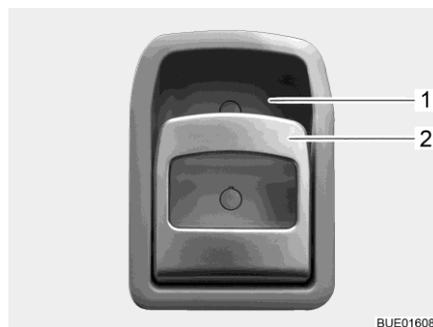

Fig. 73 Door lock (conversion door, inside)
- Pull on the handle (Fig. 73,2). The door lock is unlatched or opened.
- Press the upper part of the handle (Fig. 73,2) in the direction of the recessed handle (Fig. 73,1). The door lock is locked.